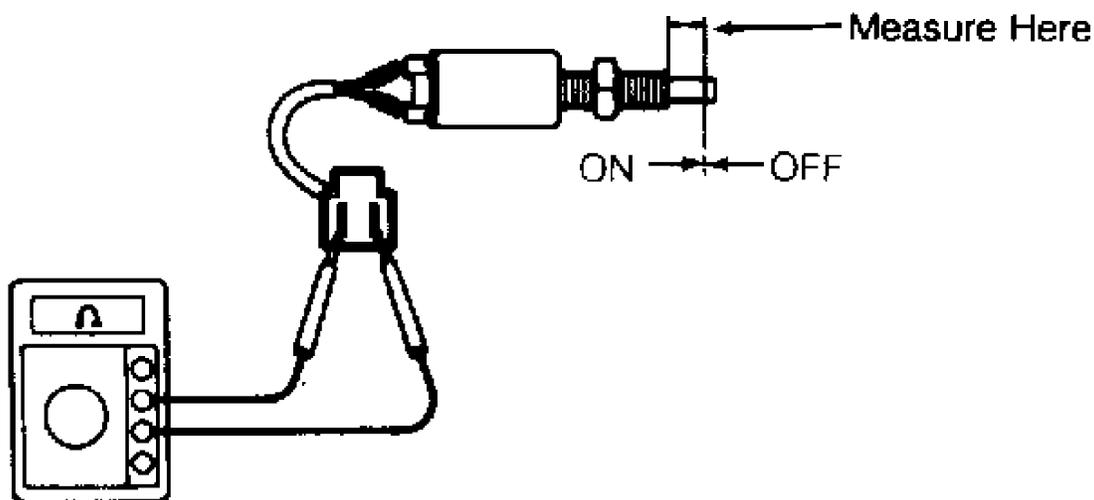

Fig. 3: Testing Clutch Start System Switch
- 2) On all models, if system is not operating correctly, check clutch start switch. With switch in ON (pushed) position, continuity should exist. With switch in OFF (free) position, continuity should not exist. See CLUTCH SWITCH PLUNGER CONTINUITY SPECIFICATIONS table. See Fig. 3. Replace or adjust switch as necessary.
See Fig. 3.